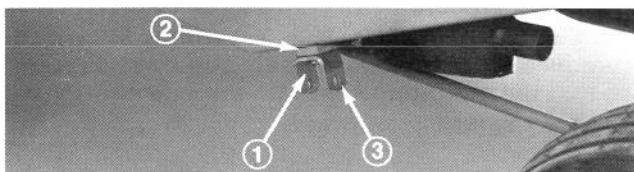

Figure 4
3. Secure Belly Shield hanger and engine support to frame with 3/8 x 1-1/4 in. capscrew and flange nut. Repeat procedure on opposite side of machine (Fig. 4).
4. On diesel machines only, install a 3/8 in. thick spacer between shield hanger and frame (Fig. 4).